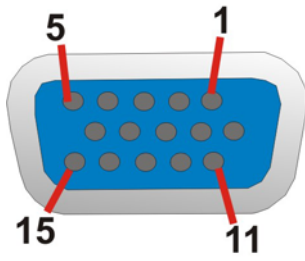

Figure 3-31: VGA Connector
- CN Pinouts:** See Figure 3-31 an Table 3-31